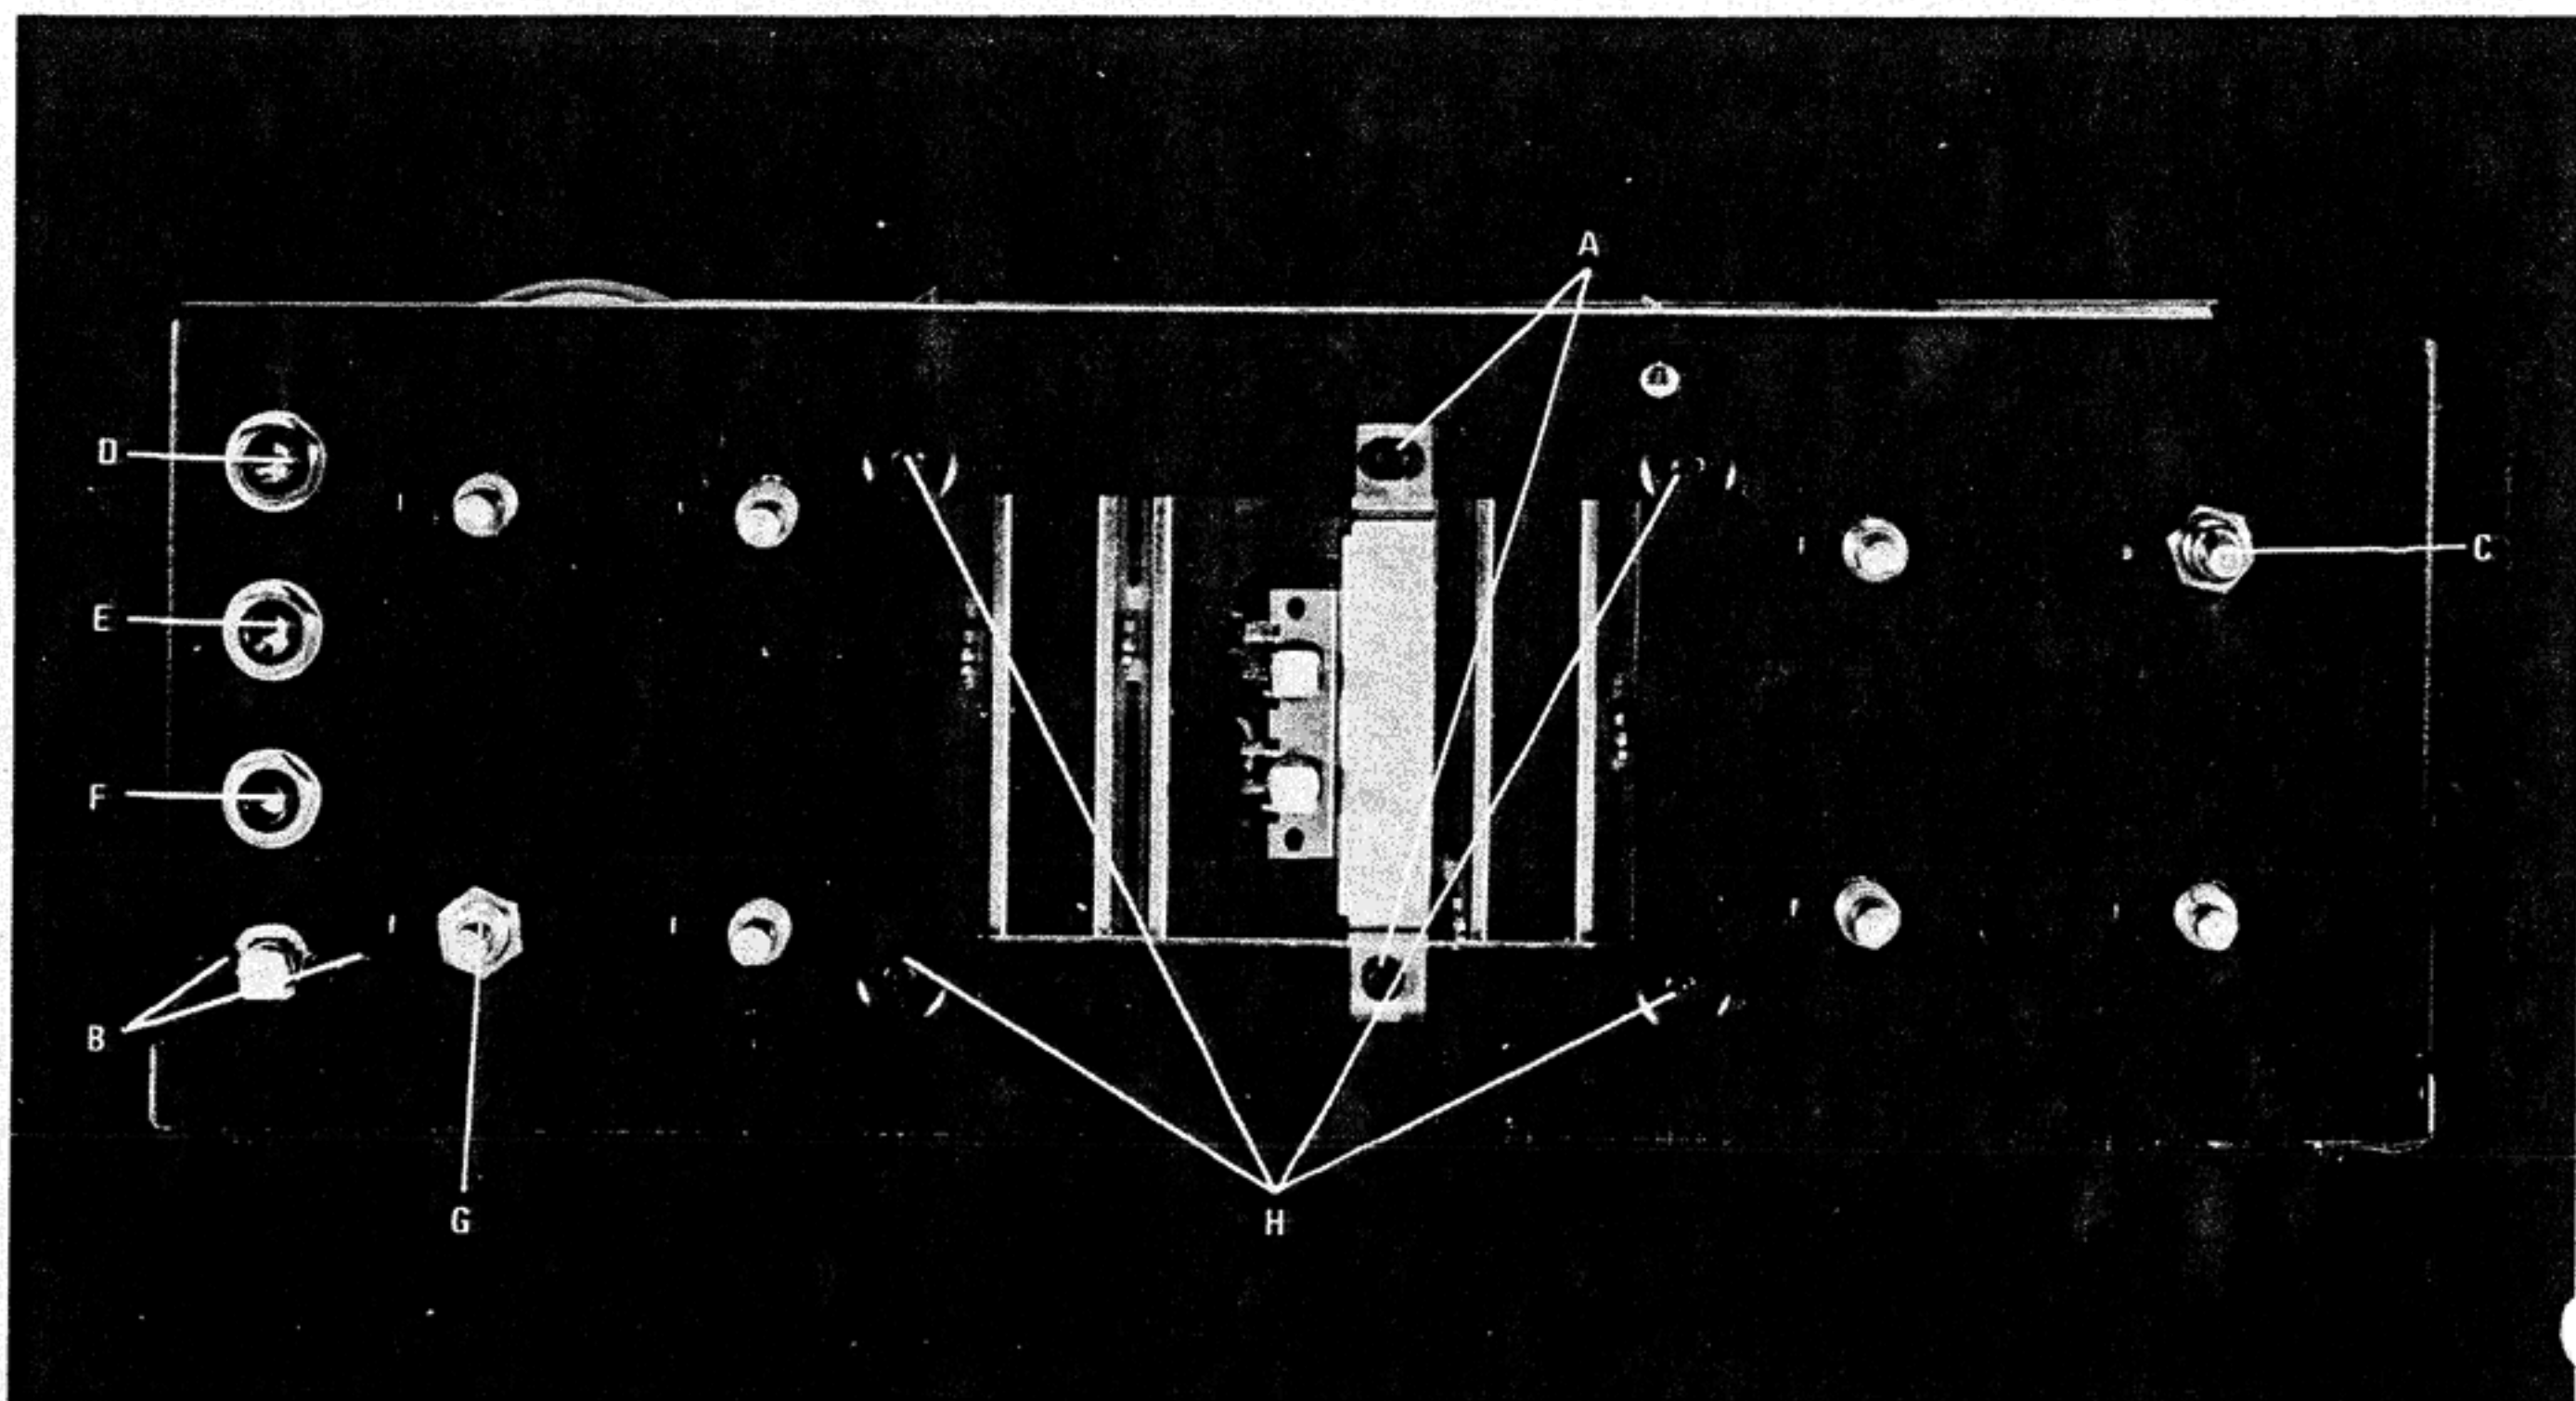

Figure 35 Model 3300 Front Chassis (Without Decor Panel)
2. Remove the two machine screws holding the vertical mounting bracket — Figure 35, Item A.
To gain access to the Speaker Switch, remove the shield that is secured to the bottom chassis by two self-tapping machine screws. To remove the switch it will be necessary to remove the front panel to gain access to the 1/2" hex nut holding the switch to the front chassis (Figure 35, Item G). Save lockwasher between Speaker Switch and Chassis.
To remove the Power Switch, first remove the front panel and then remove the two retaining machine screws — Figure 35, Item B.
3. Remove the 1/2" hex nuts securing the Selector Switch, Dubbing In jack and Dubbing Out jack, Figure 35, Items C, D, E.
4. Remove the four machine screws holding the tone potentiometer bracket, Figure 35, Item H.